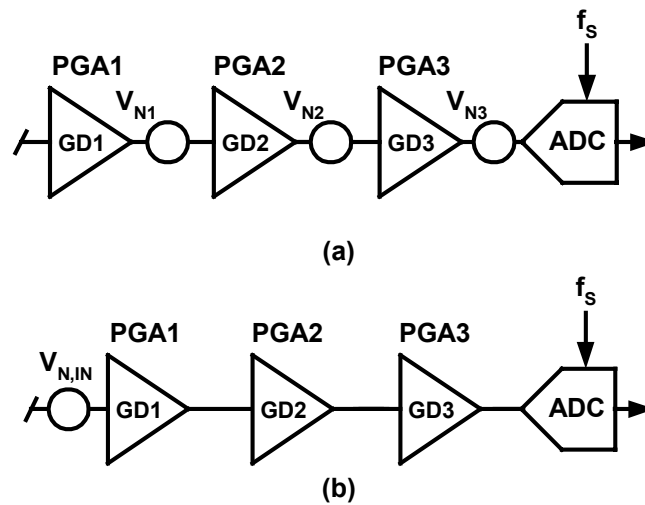
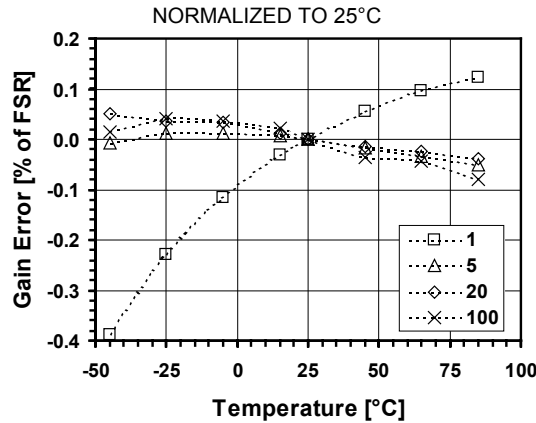

Figure 17-18. (a) Simple noise model for PGAs and ADC and (b) total input referred noise
Figure 17-19. Gain error vs. temperature for different PGA gains
- (1) Gain defined as overall PGA gain $GD_{TOT} = GD_1 \cdot GD_2 \cdot GD_3$. Maximum input voltage is given by: $V_{IN,MAX} = \pm(V_{REF}/2) \cdot (OSR/OSR+1)$.
- (2) Offset due to tolerance on $GDOFF_2$ or $GDOFF_3$ setting. For small intrinsic offset, use only ADC and PGA1.
- (3) Measured with block connected to inputs through AMUX block. Normalized input sampling frequency for input impedance is $f_s = 512kHz$. This figure must be multiplied by 2 for $f_s = 256kHz$, 4 for $f_s = 128kHz$. Input impedance is proportional to $1/f_s$.
- (4) Figure independent from PGA1 gain and sampling frequency f_s . See model of Figure 17-18(a). See equation Eq. 21 to calculate equivalent input noise.
- (5) Figure independent on PGA2 gain and sampling frequency f_s . See model of Figure 17-18(a). See equation Eq. 21 to calculate equivalent input noise.
- (6) Figure independent on PGA3 gain and sampling frequency f_s . See model of Figure 17-18(a) and equation Eq. 21 to calculate equivalent input noise.
- (7) Resolution is given by $n = 2 \cdot \log_2(OSR) + \log_2(N_{ELCONV})$. OSR can be set between 8 and 1024, in powers of 2. N_{ELCONV} can be set to 1, 2, 4 or 8.
- (8) If a ramp signal is applied to the input, all digital codes appear in the resulting ADC output data.
- (9) Gain error is defined as the amount of deviation between the ideal (theoretical) transfer function and the measured transfer function (with the offset error removed). (See Figure 17-19)
- (10) Offset error is defined as the output code error for a zero volt input (ideally, output code = 0). For ± 1 LSB offset, N_{ELCONV} must be ≥ 2 .
- (11) INL defined as the deviation of the DC transfer curve of each individual code from the best-fit straight line. This specification holds over the full scale.
- (12) DNL is defined as the difference (in LSB) between the ideal (1 LSB) and measured code transitions for successive codes.
- (13) Figures for Gains = 1 to 100. PSRR is defined as the amount of change in the ADC output value as the power supply voltage changes.
- (14) Conversion time is given by: $T_{CONV} = (N_{ELCONV} \cdot (OSR + 1) + 1) / f_s$. OSR can be set between 8 and 1024, in powers of 2. N_{ELCONV} can be set to 1, 2, 4 or 8.
- (15) PGAs are reset after each writing operation to registers RegACCFg1-5. The ADC must be started after a PGA or inputs common-mode stabilisation delay. This is done by writing bit *Start* several cycles after PGA settings modification or channel switching. Delay between PGA start or input channel switching and ADC start should be equivalent to OSR (between 8 and 1024) number of cycles. This delay does not apply to conversions made without the PGAs.
- (16) Nominal (maximum) bias currents in PGAs and ADC, i.e. $IB_AMP_PGA[1:0] = '11'$ and $IB_AMP_ADC[1:0] = '11'$.
- (17) Bias currents in PGAs and ADC set to 3/4 of nominal values, i.e. $IB_AMP_PGA[1:0] = '10'$, $IB_AMP_ADC[1:0] = '10'$.
- (18) Bias currents in PGAs and ADC set to 1/2 of nominal values, i.e. $IB_AMP_PGA[1:0] = '01'$, $IB_AMP_ADC[1:0] = '01'$.
- (19) Bias currents in PGAs and ADC set to 1/4 of nominal values, i.e. $IB_AMP_PGA[1:0] = '00'$, $IB_AMP_ADC[1:0] = '00'$.
The simple noise model of Figure 17-18(a) is used to estimate the equivalent input referred rms noise $V_{N,IN}$ of the acquisition chain in the model of Figure 17-18(b). This is given by the relationship:
Note: see noise model of Figure 17-18 and equation Eq. 21.
Figure 17-19 shows gain error drift vs. temperature for different PGA gains. The curves are expressed in % of Full-Scale Range (FSR) normalized to 25°C.